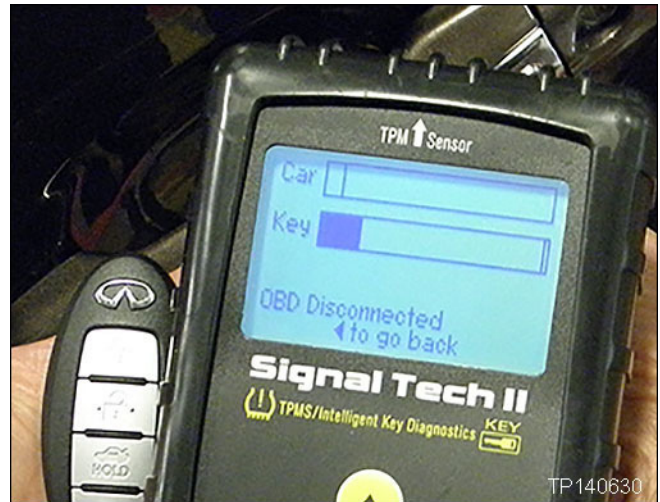
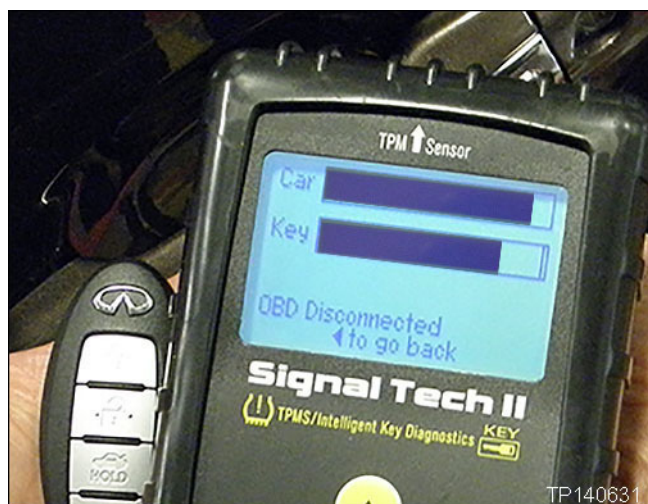

Figure 5
Figure 7
If there is no response (no signal) from the Car or the Key as shown in Figure 5, replace the BCM.
NOTE: The small amount of signal shown on the Key bar graph in Figure 5 is constant background RF being detected. It is not a signal from the Intelligent Key. See Figure 7, on the next page, for an example of a signal from an Intelligent Key.
- The small amount of signal shown on the Key bar graph in Figure 6 is constant background RF being detected. It is not a signal from the Intelligent Key. See Figure 7, on the next page, for an example of a signal from an Intelligent Key.
NOTE: Response from both the Car and the Key, as shown in Figure 7, indicates that the BCM and the Intelligent key are functioning.